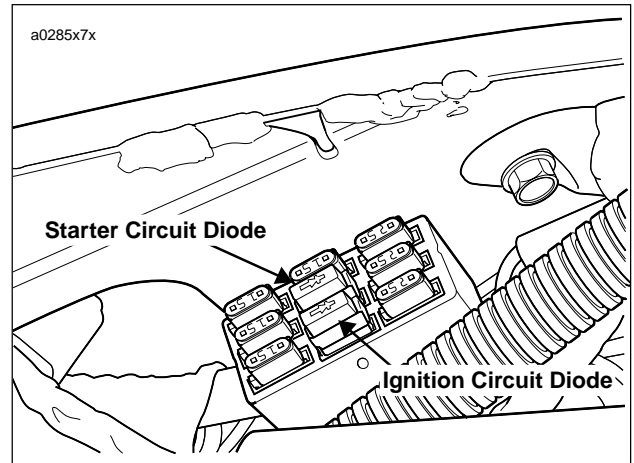

Figure 7-42. Diode Location in Fuse Block
3. See Figure 7-42. Both diodes are mounted in the fuse block under the seat.
1. See Figure 7-42. Install the **new** diodes into position on the fuse block by pushing it into the slot.
1. See Figure 7-42. Connect ammeter between negative battery terminal and battery. With this arrangement, you will also pick up any regulator drain.